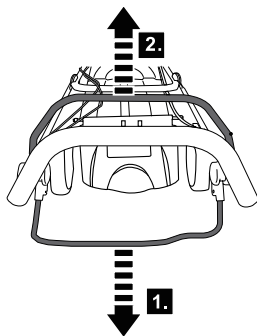

Fig. 21
1. Release the drive bar (3) to stop the self-propelled function (Fig. 21, 1.).
2. Release the brake bar (2) to stop the engine and blade (Fig. 21, 2.).